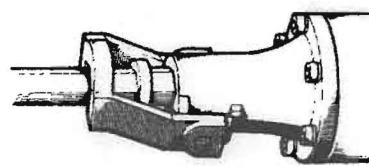

Fig. 3
2. Swing the retainer back into place so that it engages the tool shank and prevents tool from coming all the way out of the front cover. (Fig. 3)